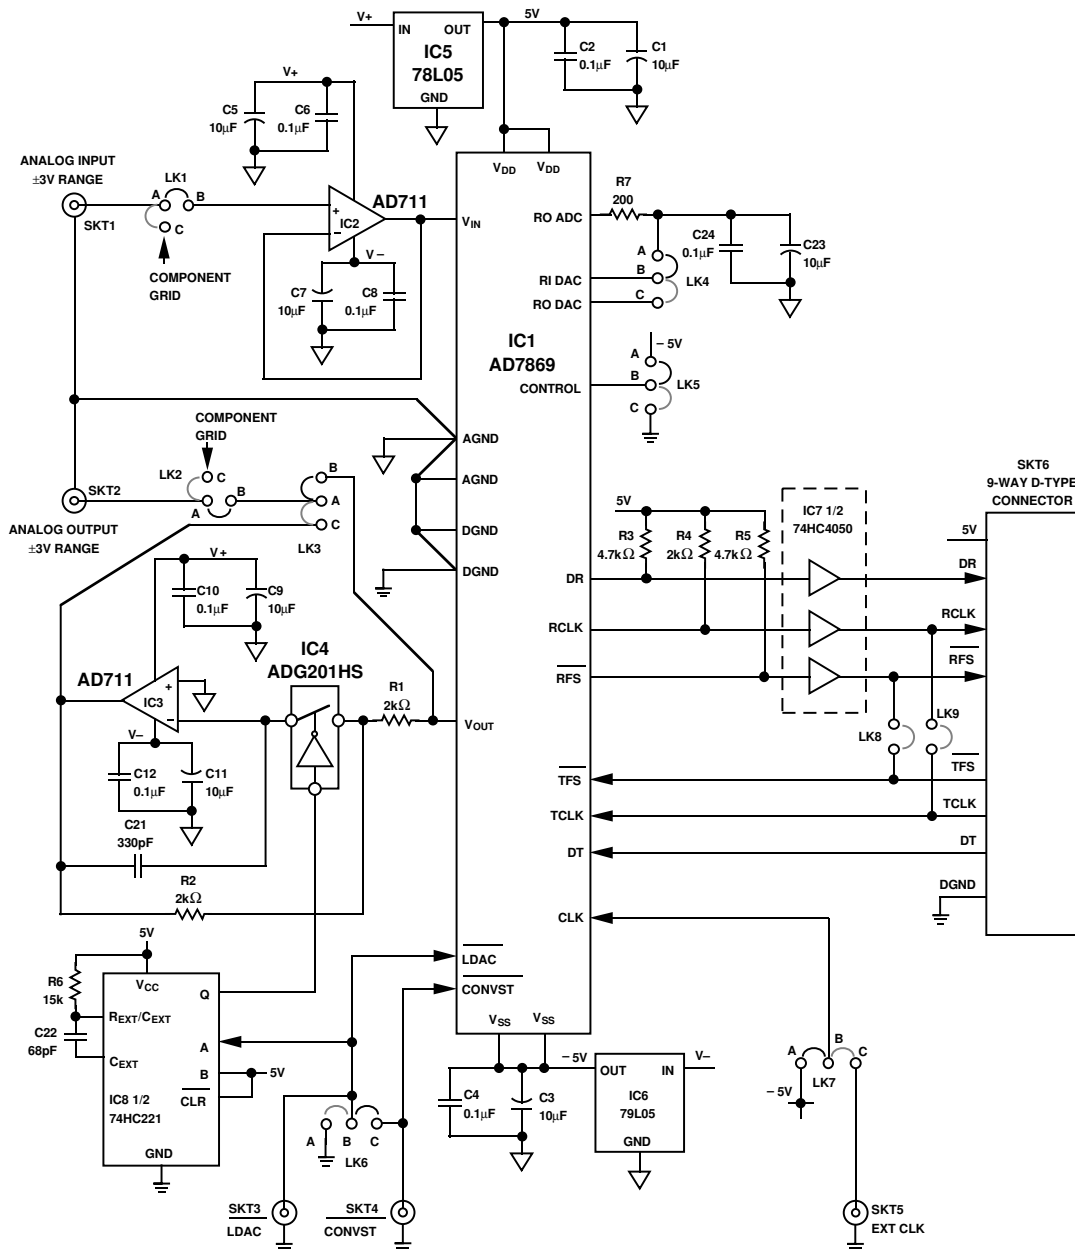
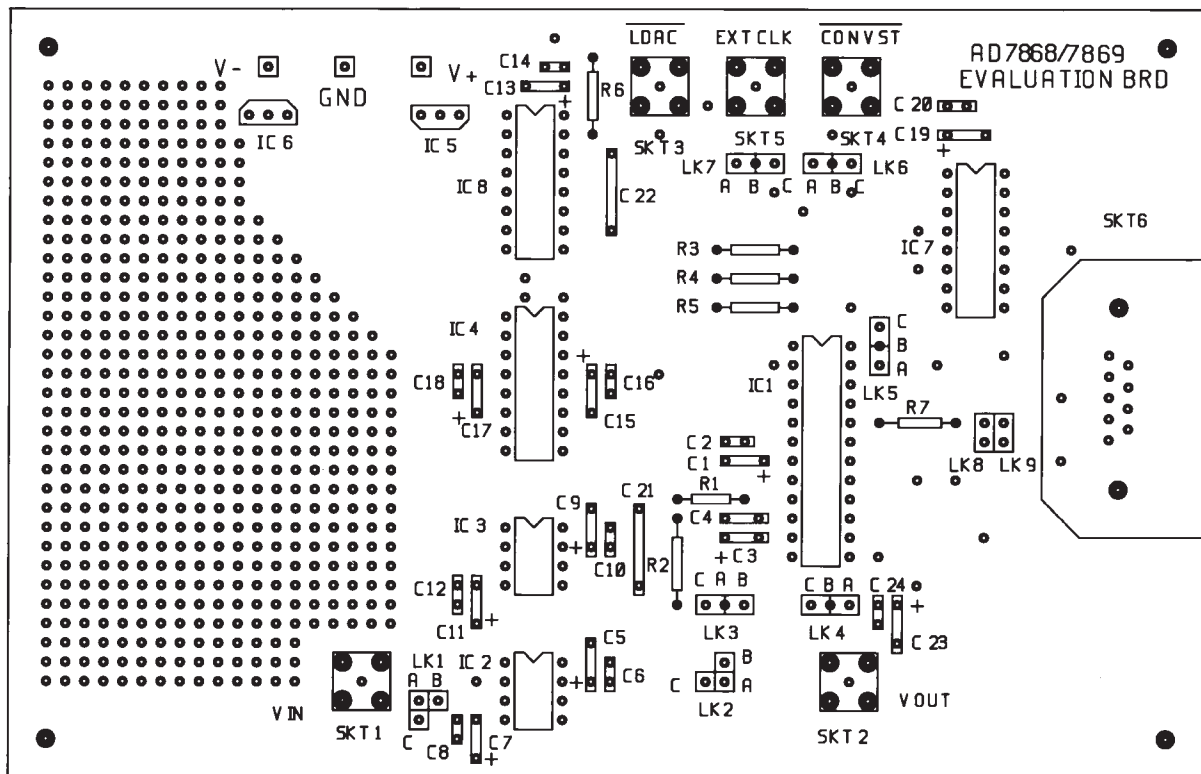

Figure 19. Input/Output Circuit Based on the AD7869
Figure 21. Silkscreen for the Circuit Diagram of Figure 19
Figure 19 shows an analog I/O board based on the AD7869. The corresponding printed circuit (PC) board layout and silkscreen are shown in Figures 21 to 23.
The PC board requires two analog power supplies and one 5 V digital supply. Connections to the analog supply are made directly to the PC board as shown on the silkscreen in Figure 21. The connections are labeled V+ and V–, and the range for both of these supplies is 12 V to 15 V. Connections to the 5 V digital supply are made through the D-type connector SKT6. The ± 5 V analog supply required by the AD7869 is generated from two voltage regulators on the V+ and V– supplies.